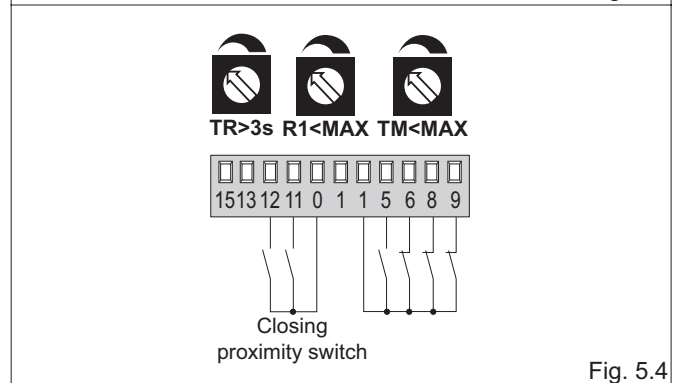

Fig. 5.4
- **(Fig. 5.4) Door wings stop against mechanical end stops and reverse motion in the event of obstacle detection.**